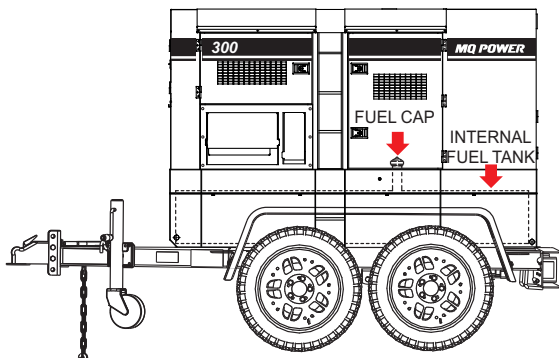

Figure 31. Fuel Tank
**ALWAYS** fill the fuel tank (Figure 31) with clean, fresh, #2 diesel fuel. Pay attention to the fuel tank capacity when replenishing fuel. **DO NOT** fill the fuel tank beyond its capacity.